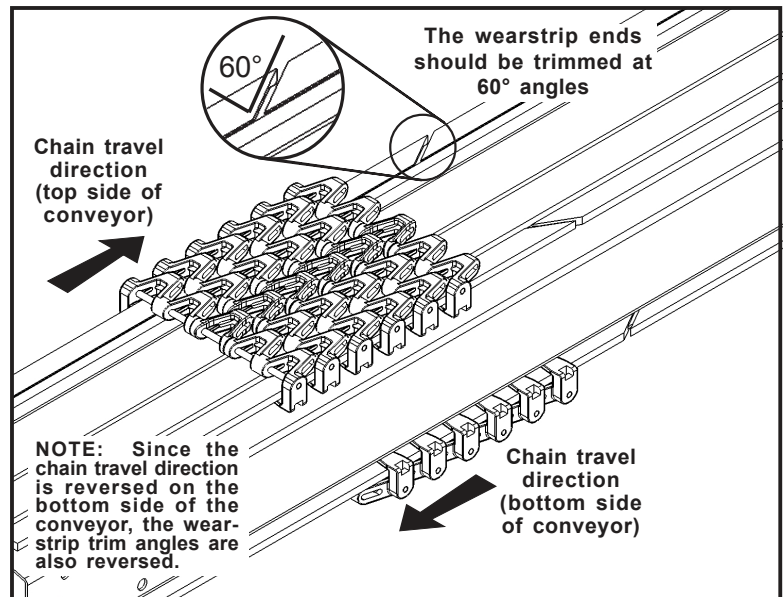

Figure 10: Overview of Wearstrip assembly
**CUT ANGLE:** The ends of adjoining wearstrip sections should be trimmed at 60° angles, as shown in *Figure 10*. This angle, in conjunction with the direction in which the angles are cut (discussed below), allows the chain to travel smoothly over the wearstrip joint.
**CUT DIRECTION:** The direction in which the conveyor chain will travel dictates the direction at which the wearstrip angles will be cut. *Figure 10* shows the correct angles in relation to the direction of chain flow. When making cuts, keep in mind that the conveyor chain runs in the opposite direction on the underside of the frame.
*Ensure that the angles are cut correctly with regard to the direction of chain flow. Refer to **Figure 10** on previous page.*